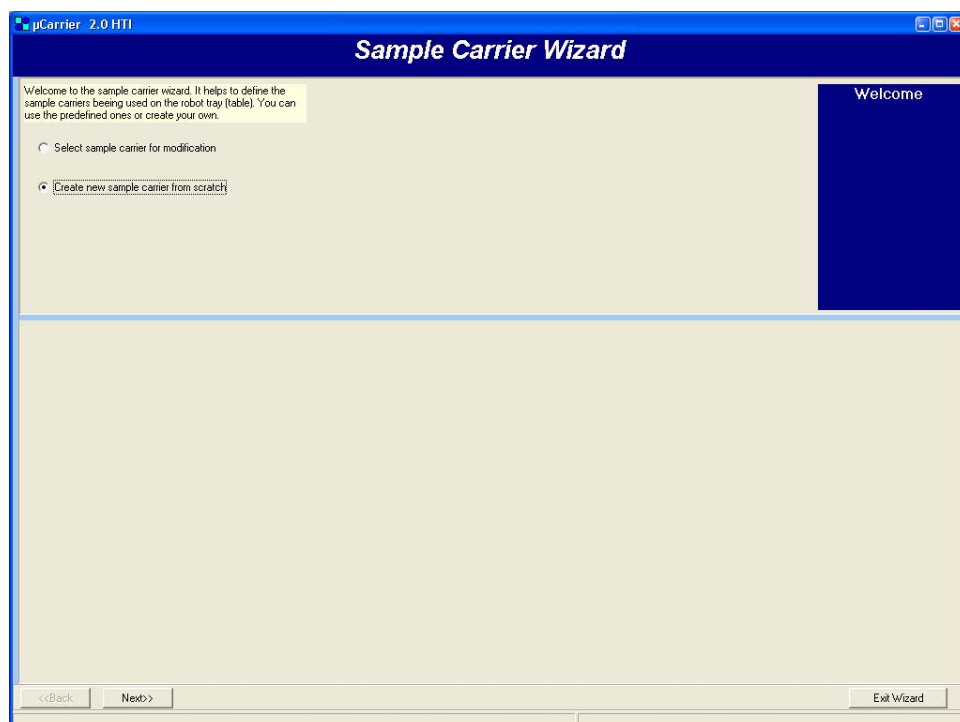

FIGURE 2-22 Sample Carrier Wizard – Welcome Screen
- c) The welcome screen of the *Sample Carrier Wizard* is presented (FIGURE 2-22). Select the 'Create a new sample carrier ...' option and confirm with the **Next** button.